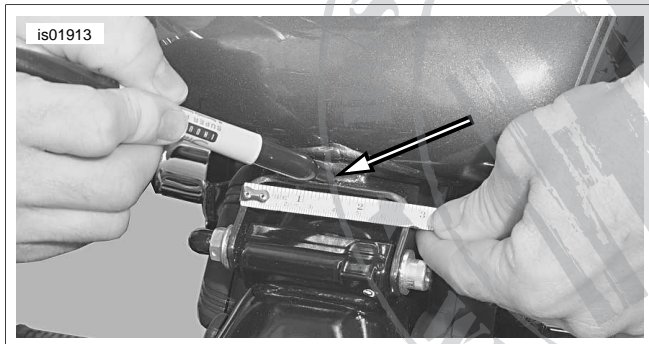

Figure 3. Mark the Fuel Tank Centerline
4. Measure and mark the centerline of the fuel tank, with a wax pencil or water-based marker, at the rear of the tank as shown in Figure 3. Proceed to Step 10.
9. Measure and mark the centerline of the fuel tank, with a wax pencil or water-based marker, at the rear of the tank as shown in Figure 3. Proceed to Step 10.